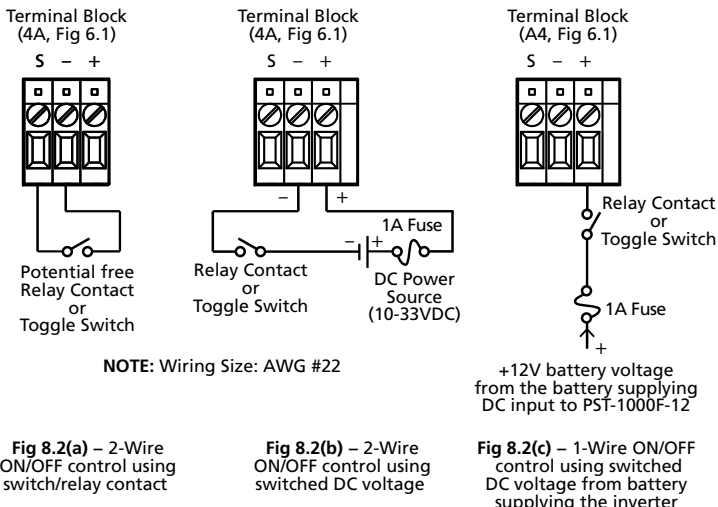

Fig. 8.2: ON/OFF Control from Remote Location using External 2-Wire or 1-Wire Control
The unit can be switched ON/OFF from a remote location using external, wired ON/OFF control options as shown in Fig 8.2(a), (b) and (c) and associated details at Sections 8.9.1.1 to 8.9.1.3.
Fig 8.2(a): In this arrangement, external voltage source is NOT required. The inverter will switch ON when potential free relay contact / switch is closed and terminals "S" and "-" of the Terminal Block (4A, Fig 6.1) are shorted. The inverter will switch OFF when the relay contact / switch is opened and short is removed across terminals "S" and "-" of the Terminal Block (4A, Fig 6.1).
8.9.1.2 2-Wire ON/OFF Control Using Switched DC Voltage (10-33VDC), Fig 8.2(b):
8.9.1.3 1-Wire ON/OFF Control Using Switched DC Voltage from the Battery Supplying the Inverter, Fig 8.2(c) :